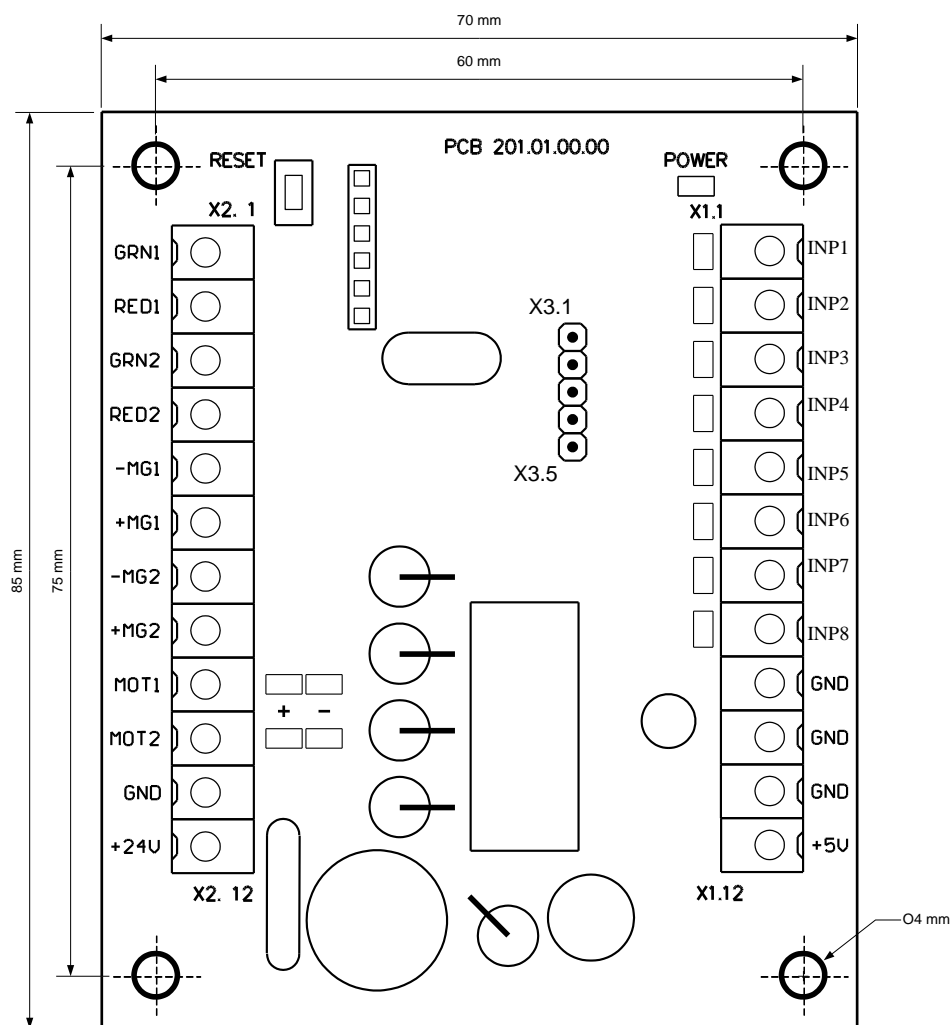

Figure 5 – Appearance of controller PCB.201.01.00.00
1.8.2.1 Appearance of controller PCB.201.01.00.00 is shown in the Figure 5.